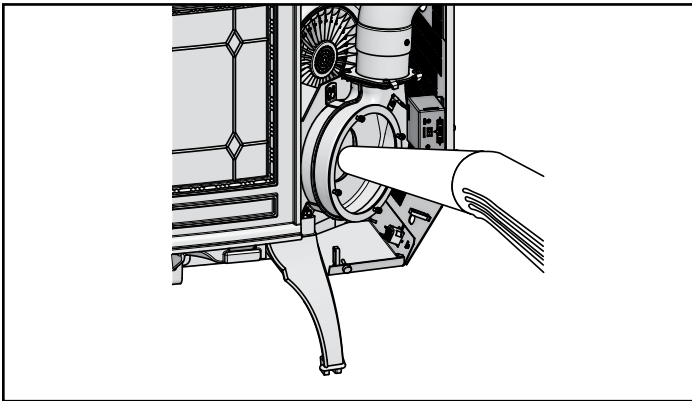

Figure 20.1
- d. Vacuum out exhaust path and housing (**Figure 20.1**).